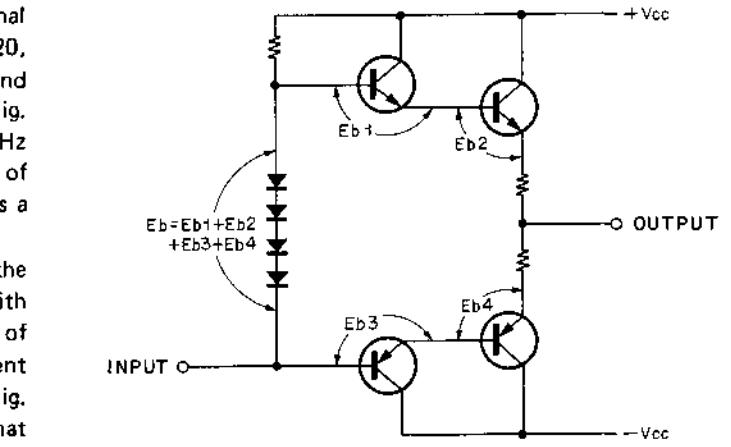
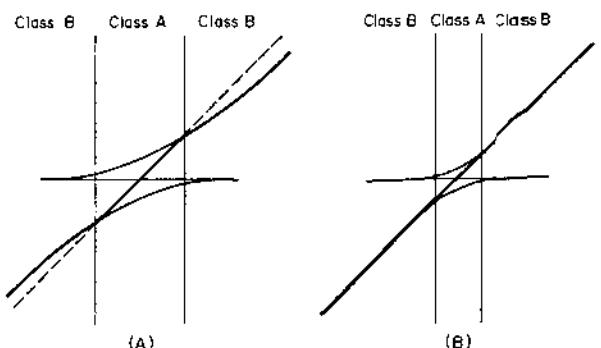
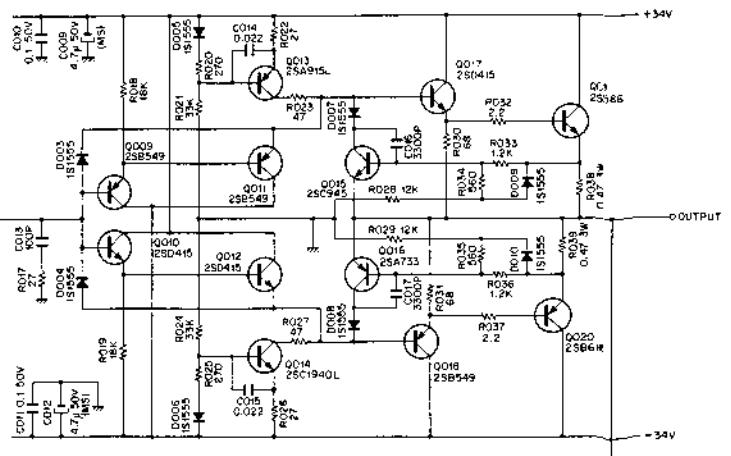

Fig. 2.4
Fig. 2.5
Fig. 2.3
Especially for a class B push-pull amplifier, distortion cannot be reduced unless the positive and negative signal amplifiers are well balanced. The amplifier in the 420, however, is best balanced thanks to the vertically and horizontally symmetric configuration as shown in Fig. 2.3. This circuit allows distortion of only 0.1% at 1KHz 50 watts output even without NFB. This degree of distortion is low enough to make the amplifier used as a high-fidelity unit even if it is given no NFB.
Fig. 2.4 shows that a change in current flowing across the diode varies the terminal voltage and that E_b changes with signal current. These changes result in the generation of distortion. It is a matter of course that signal current flowing across the diode will produce distortion. See Fig. 2.3. Transistors Q009, Q011, Q010 and Q012 that generate bias voltage form an emitter-follower circuit of class A operation. Thus this circuit does not induce distorted signals.
For an ordinary class B amplifier, crossover distortion is reduced by increasing idling current thus overlapping the operating ranges of the positive and negative transistors. The overlap portion acts as a class A amplifier. Generally, the degree of amplification decreases where a change takes place from class A to B and no linear curve is obtained as shown in Fig. 2.5 (A). However, if the circuit shown in Fig. 2.3 is current-driven, a linear curve can be obtained at the point of change from class A to B as shown in Fig. 2.5 (B).